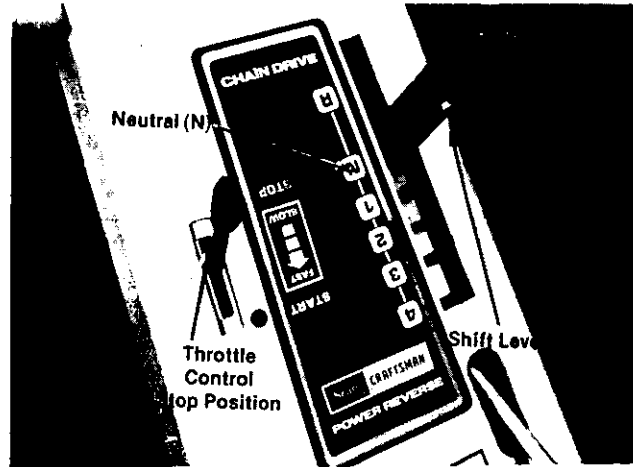

FIGURE 21.
2. Place the shift lever in the neutral (N) position. See figure 21.
- A. **Stop**—Pull lever back (upward) to stop the unit. See figure 21.